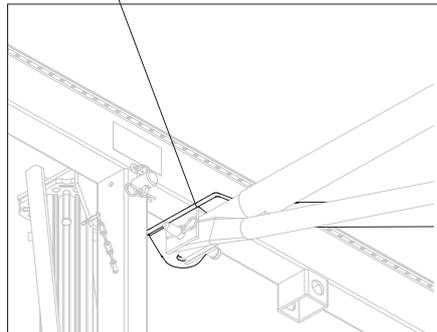

Fig. A7.14
4. Insert Spreader Tube STST and Diagonal Brace STD and secure with pin and cotter pin. (Fig. A7.14)